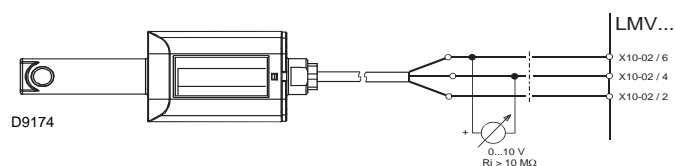

Fig. 33
**Power to photocell QRI (Fig. 33)**
To measure power, use a voltmeter with a 10 Vdc scale, connected as illustrated on Fig. 33.